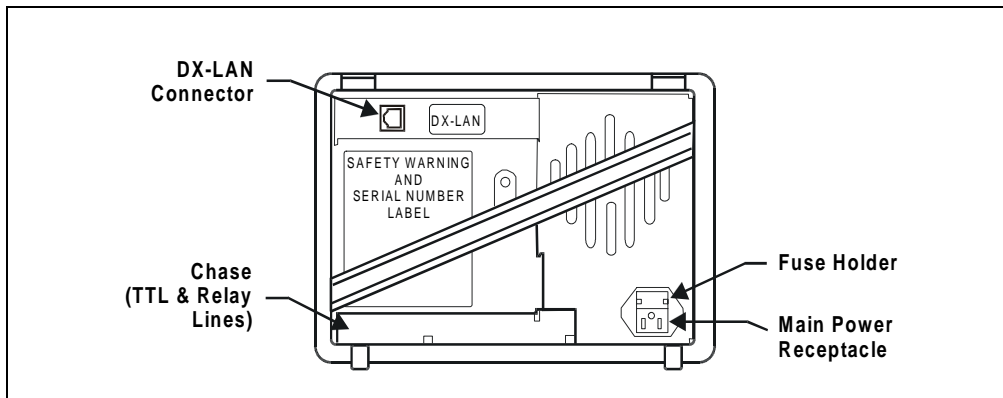

Figure B-1. CD25 Rear Panel
For power on/off control from the CD25, connect the modular power cord (IEC 320 C13), from the main power receptacle on the rear panel (see Figure B-1) to a grounded, single-phase, power source.
1. To replace an existing detector interface card, remove the DX-LAN cable from the 10BASE-T connector on the CD25 rear panel (see Figure B-1).
3. Connect the other end of the cable into the 10BASE-T DX-LAN connector on the CD25 rear panel (see Figure B-1).
1. To replace an existing detector interface card, remove the hex nut securing the DX-LAN BNC connector to the CD25 rear panel (see Figure B-1).
- a. Note the two small locking pins on either side of the DX-LAN BNC connector on the rear panel (see Figure B-1).